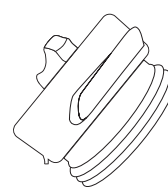

Figure 9
- Remove the service plug (fig. 9), which is located under the lid of the water purifier.